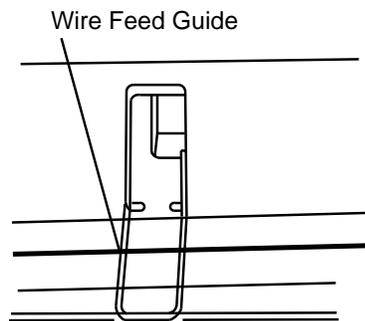

Figure 9-8. Model 602 Wire Feed Guide
11. Close the rear cover, and swing the wire feed guide over to rest on the pull-up roller assembly. See Figure 9-8. The wire feed guide keeps the paper from curling back into the ROP.